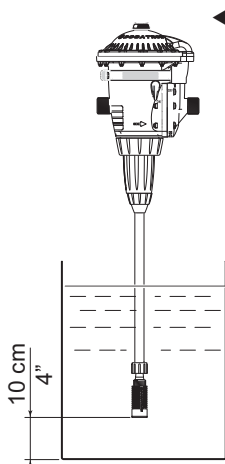

Fig. 2
**IMPORTANT ! - Do not put the suction tube strainer on the bottom of the stock solution container. The strainer must be suspended at least [4"] 10 cm above the bottom of the tank to avoid sucking up the insoluble particles that may damage the injection assembly (Fig.2).